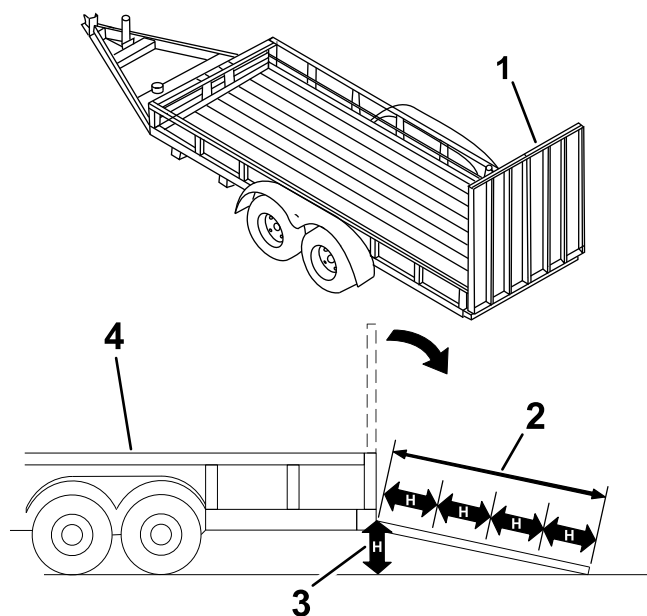

Figure 19
Loading a machine onto a trailer or truck increases the possibility of tip-over and could cause serious injury or death (Figure 19).
3. Lower the ramp (Figure 19).